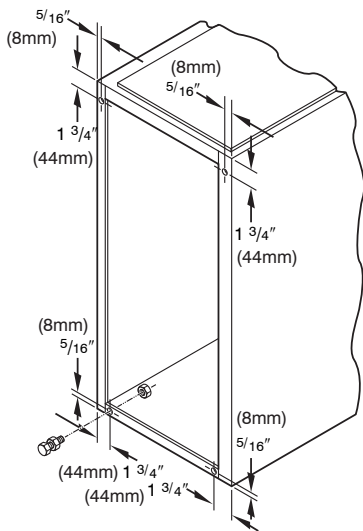

Fig. 20 - Leveling Legs
When furnace is used in upflow position with side inlet(s), leveling legs may be desired. (See Fig. 20.) Install field-supplied, corrosion-resistant 5/16-in. (8 mm) machine bolts and nuts.
1. Position furnace on its back. Locate and drill a 5/16-in.(8 mm) diameter hole in each bottom corner of furnace. (See Fig. 20.) Holes in bottom closure panel may be used as guide locations.